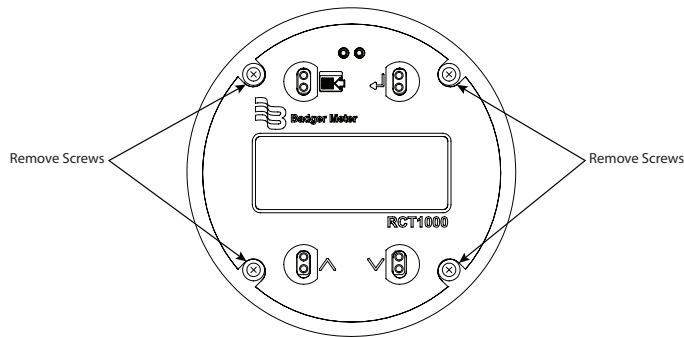

Figure 21: Phillips head screws
3. Use a Phillips screwdriver to remove the 4 screws holding the display board to the standoffs (hold display board as the last screw is removed so the board does not drop down when mounted vertically). See *Figure 21*.